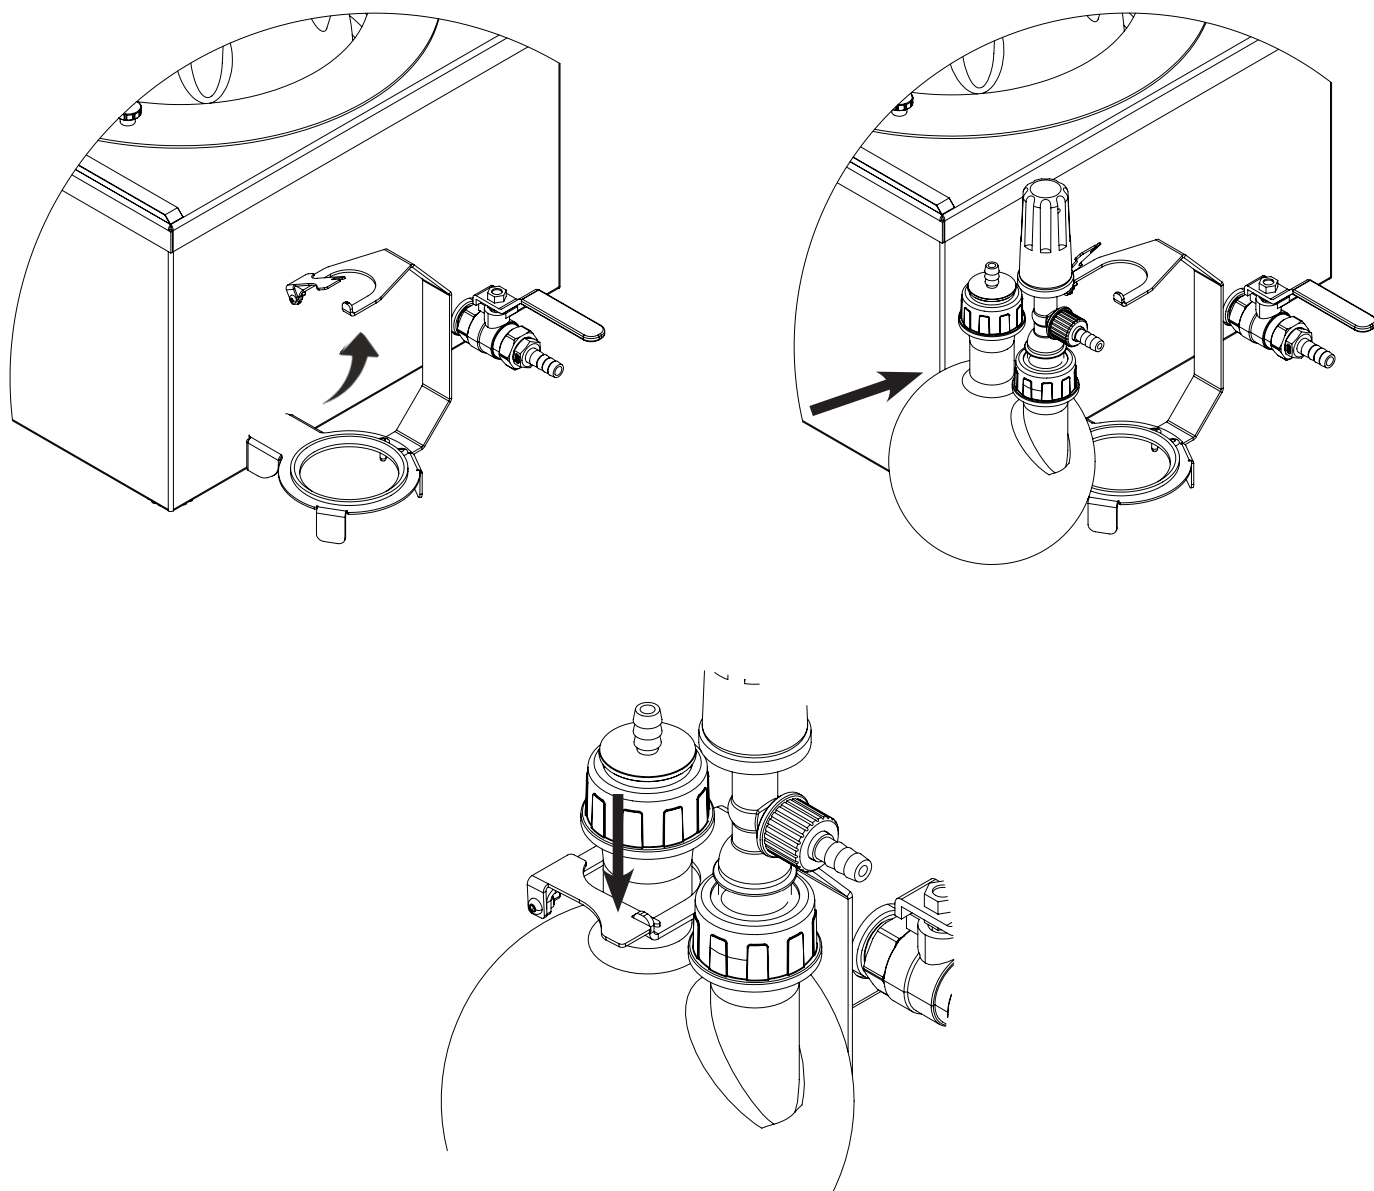

Fig. 23 : Receiver Flask Assembly
- Now place the receiver flask assembly on the flask holder as shown in fig. 23.
- Connect the receiver flask to the condenser using a silicone tube as shown in fig. 23.